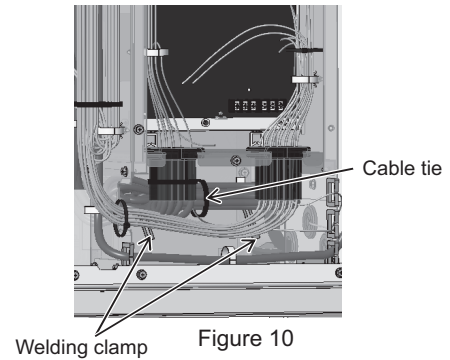

Figure 10
- (12) Cut the cable tie and loosen the two welding clamps holding the strong electrical wiring at the bottom of the main control box. (See Figure 10.)